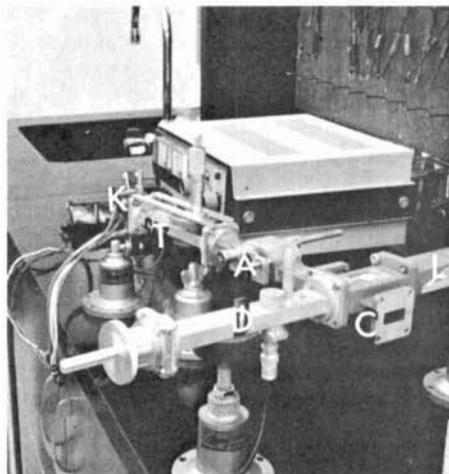

fig. 2. Experimental X-band microwave string.
To provide the desired output-pulse width, two gates (one IC package) may be connected as a monostable multivibrator. The multivibrator output pulse can be adjusted to the desired pulse width by changing the RC time constant and bias voltage, or both, applied to the gate. Two units supply the proper output-pulse width of 5 ms for the 15-Hz scanning rate and 30 ms for the 8-second vertical or frame rate. A third multivibrator supplies a fast-fall-time pulse, derived from the power-line frequency, to trigger the first counter. The complete sync generator is shown in fig. 2.
Fig. 2 shows a microwave string consisting of a Varian 998044 klystron (K), cooled by a small squirrel-cage fan (always force cool even the smallest klystron), homemade slide screw tuner (SST), surplus attenuator (A), surplus directional coupler (C), surplus absorptive
load (L) and a homemade tunable crystal detector (D). What you connect beyond the directional coupler will depend on what you want to study or illustrate. The assembly of fig. 2 is used for studying
Since the exposed metal envelope of the reflex klystron tube forms the anode, the tube is normally operated with the anode grounded and with the cathode and repeller operated below ground potential. For either the Varian klystron shown in fig. 2 (\$300, new) or the more common 723A/B (or 2K25) shown in fig. 1 (about \$30, new), you will need a
**fig. 2.** Using the memo-key for CW. Circuit keys the transmitter according to prerecorded input on magnetic tape. Reprogramming is easy, unlike paper tapes or "code wheels."